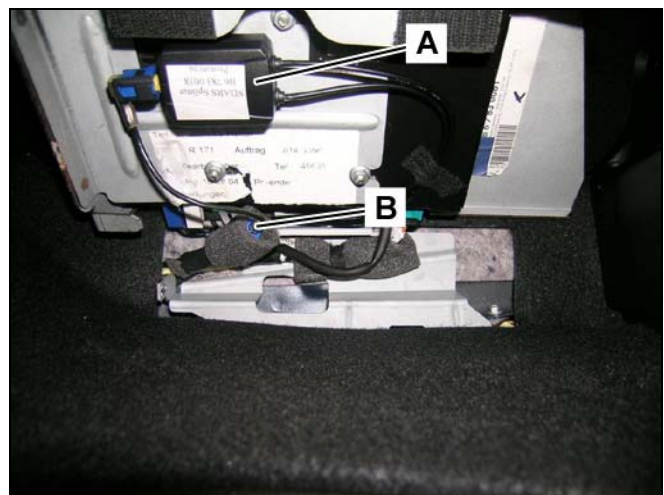

Figure 24
7. Connect the preinstalled blue antenna connector to the adapter cable (B, Figure 24) of the SDARS antenna splitter (A, Figure 24).